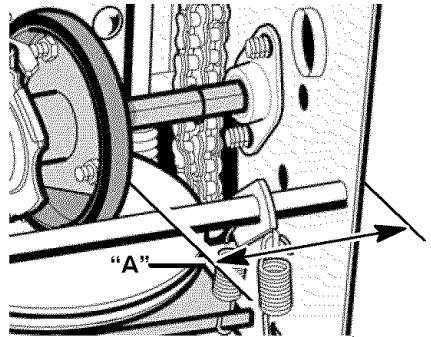

Figure 30
7. Note the position of the **friction wheel** (see Figure 30). The correct distance "A" from the right side of the **friction wheel** to the outside of the motorbox is as follows:
3. Move the **friction wheel** to the correct position (see Figure 30).